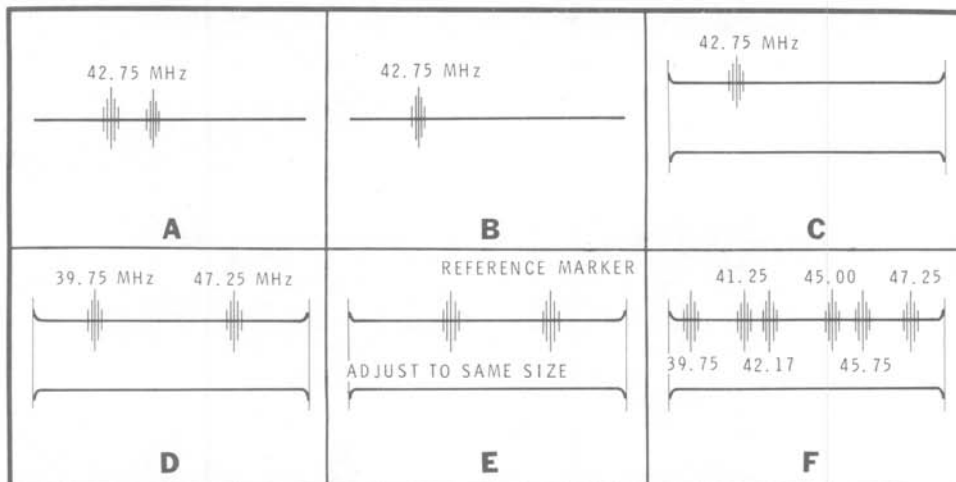

Figure 5
- ( ) Set the BLANKING switch to ON position. You should now have a double line, as shown in C of Figure 5.